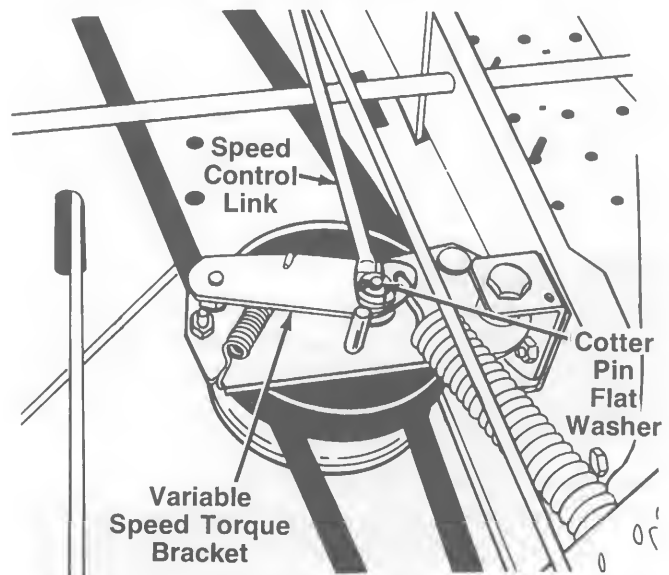

FIGURE 16.—Viewed From Beneath Tractor
9. Disconnect the speed control link from the variable speed torque bracket by removing the cotter pin and flat washer. See figure 16.